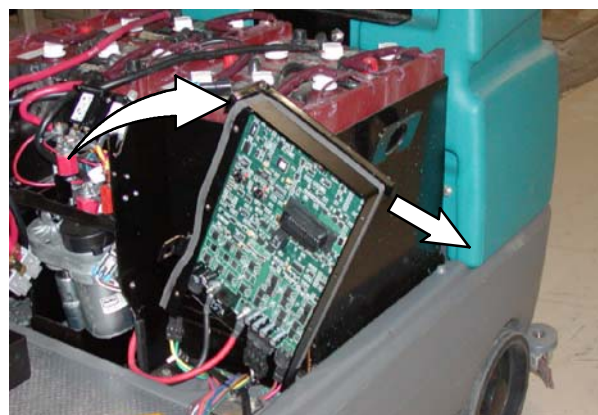

FIG. 1
1. Remove the six bolts (A) and washers (B) from the electrical panel cover (C) and remove the circuit board cover from the control panel weldment (F).
2. Remove connector (G) from the circuit board.
3. Remove bolt (D) and washer (E) from the control panel weldment (F).
4. Remove connectors (H), (J), and (K) from the circuit board.
5. Tilt the circuit board/control panel weldment (F) out as shown in Fig. 1.
8. Install the new circuit board (1)/control panel weldment (10) onto the machine. Position the circuit board/control panel weldment as shown on Fig. 1.